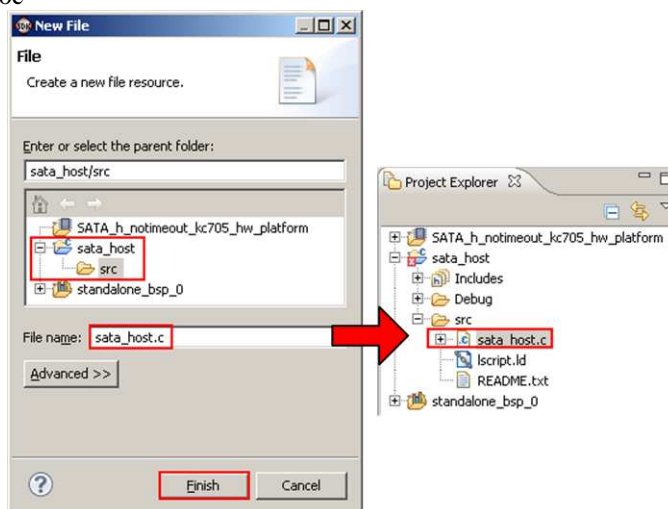

Figure 4-10 Add C source code
- 9) Select “src” folder and type file name such as “sata_host.c”. Click “Finish” to complete, and new C code (sata_host.c) will be displayed on project explorer in “src” folder, as shown in Figure 4-10.